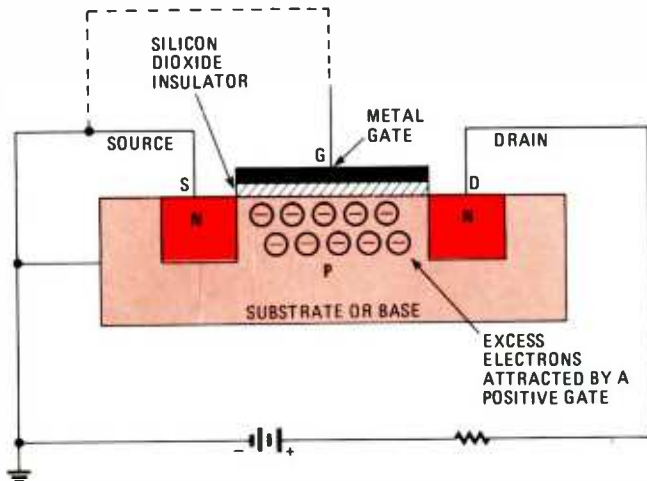

Fig. 28—The basic structure of an N-channel MOSFET. The excess electrons are attracted by a positive gate from a channel between the source and the drain.
54. (metal-oxide semiconductor) The basic structure of a MOSFET is shown in Fig. 28. Two closely spaced N-type elements are diffused into a P-type substrate (or base) form-
55. (capacitor) It is the electric field between the gate and substrate that controls current flow. As in other FET's, a voltage is applied between source and drain as indicated in Fig. 28. The substrate is connected to ground. Assume initially that the gate is also grounded. No current flows because the two PN junctions are reverse-biased. As you can see, that is different from a JFET in which source to drain current flows when gate voltage is zero.